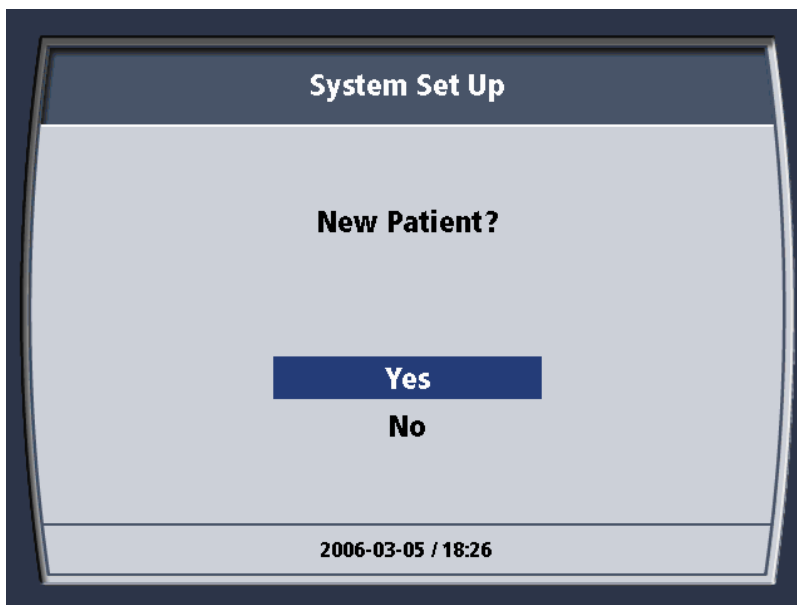

Figure 4.57. New Patient? Message
2. If you select "No" and press the knob, you will continue to be presented with screens that allow you to select operating parameters for the console prior to entering Standby starting at Figure 4.57— see below.